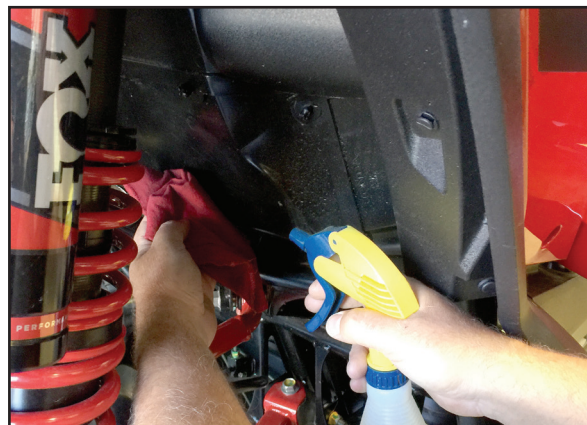

Figure 11
12. Clean the area shown in fig 11. This must be free of dirt, grease and debris. Use window cleaner or Denatured Alcohol.